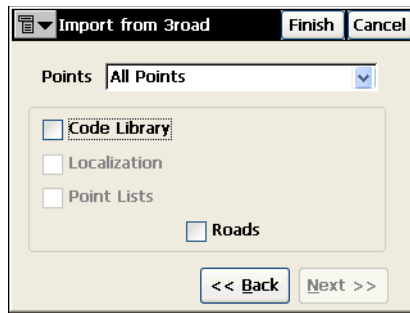

Figure 5-2. Import
3. In the *Import from <Job>* screen select whether points are to be imported, and if necessary, filter the imported points by type; by range and code; or by type, range and code (Figure 5-2 on page 5-2).